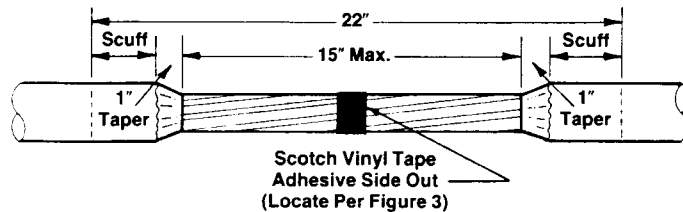

Figure 2
2. Remove entire cable jacket from repair area, for a length not exceeding 15" (380 mm). (Figure 2)
3. **FULLY** taper jacket ends for 1" (25 mm). (Figure 2)
4. **THOROUGHLY** scuff jacket ends **EQUALLY**, per Figure 2. Clean dust from scuffed area. (Figure 2)
6. Bind conductors together with band(s) of **INVERTED** vinyl tape (adhesive side out), located per Spacer Web positions shown in Figure 3. (Figure 2)